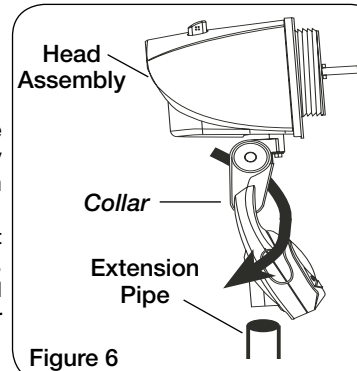

Figure 6
6. Place Head Assembly with Collar onto Extension Pipe. (Figure 6)